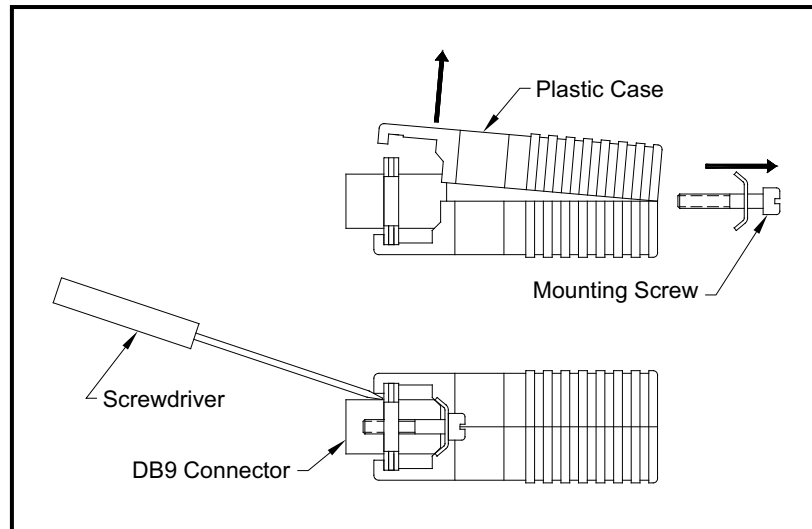

Figure 10: Opening the Converter Case
5. Use a small screwdriver to pry open the *plastic case* of the serial interface converter, as shown in *Figure 10 on page 76*.